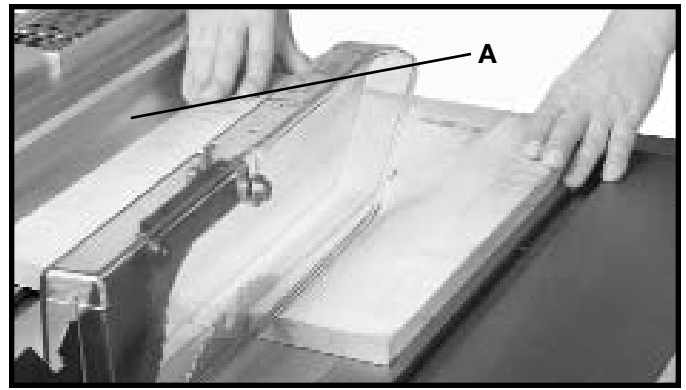

Fig. 44
Ripping is the operation of making a lengthwise cut through a board, as shown in Fig. 44, and the rip fence (A) is used to position and guide the work. One edge of the work rides against the rip fence while the flat side of the board rests on the table. Since the work is pushed along the fence, it must have a straight edge and make solid contact with the table. The saw blade guard must be used. On Delta saws, the guard has anti-kickback fingers to prevent kickback and a splitter to prevent the saw from closing and binding the blade.
Never stand in the line of the saw cut when ripping. Hold the work with both hands and push it along the fence and into the saw blade as shown in Fig. 44. The work can then be fed through the saw blade with one or two hands. After the work is beyond the saw blade and anti-kickback fingers, the hand is removed from the work. When this is done the work will either stay on the table, tilt up slightly and be caught by the end of the rear guard or slide off the table to the floor. Alternately, the feed can continue to the end of the table, after which the work is lifted and brought along the outside edge of the fence. The cut-off stock remains on the table and is not touched with the hands until the saw blade is stopped, unless it is a large piece allowing safe removal. When ripping boards longer than three feet, it is recommended that a work support be used at the rear of the saw to keep the workpiece from falling off the saw table.